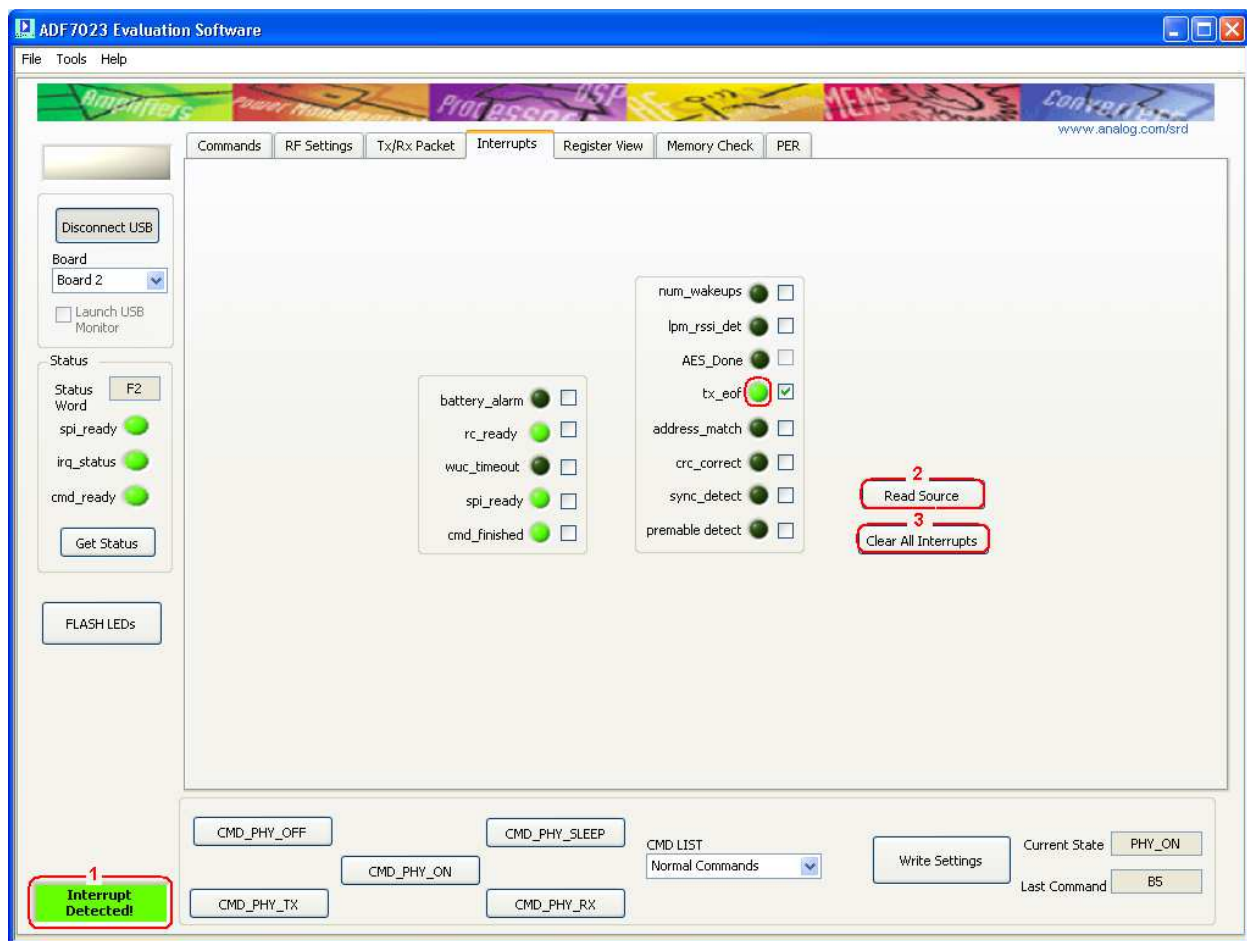

Figure 37
Once the Transmitter has transmitted a packet you should now see “Interrupt Detected!” on both instances of the software. (Figure 37 point (1))
On the Transmitter board the interrupt signifies that a packet has been successfully transmitted. To check the source of the interrupt, click “Read Source” (Figure 37 point (2))
To Clear the interrupt status click “Clear All Interrupts” (Figure 37 point (3))